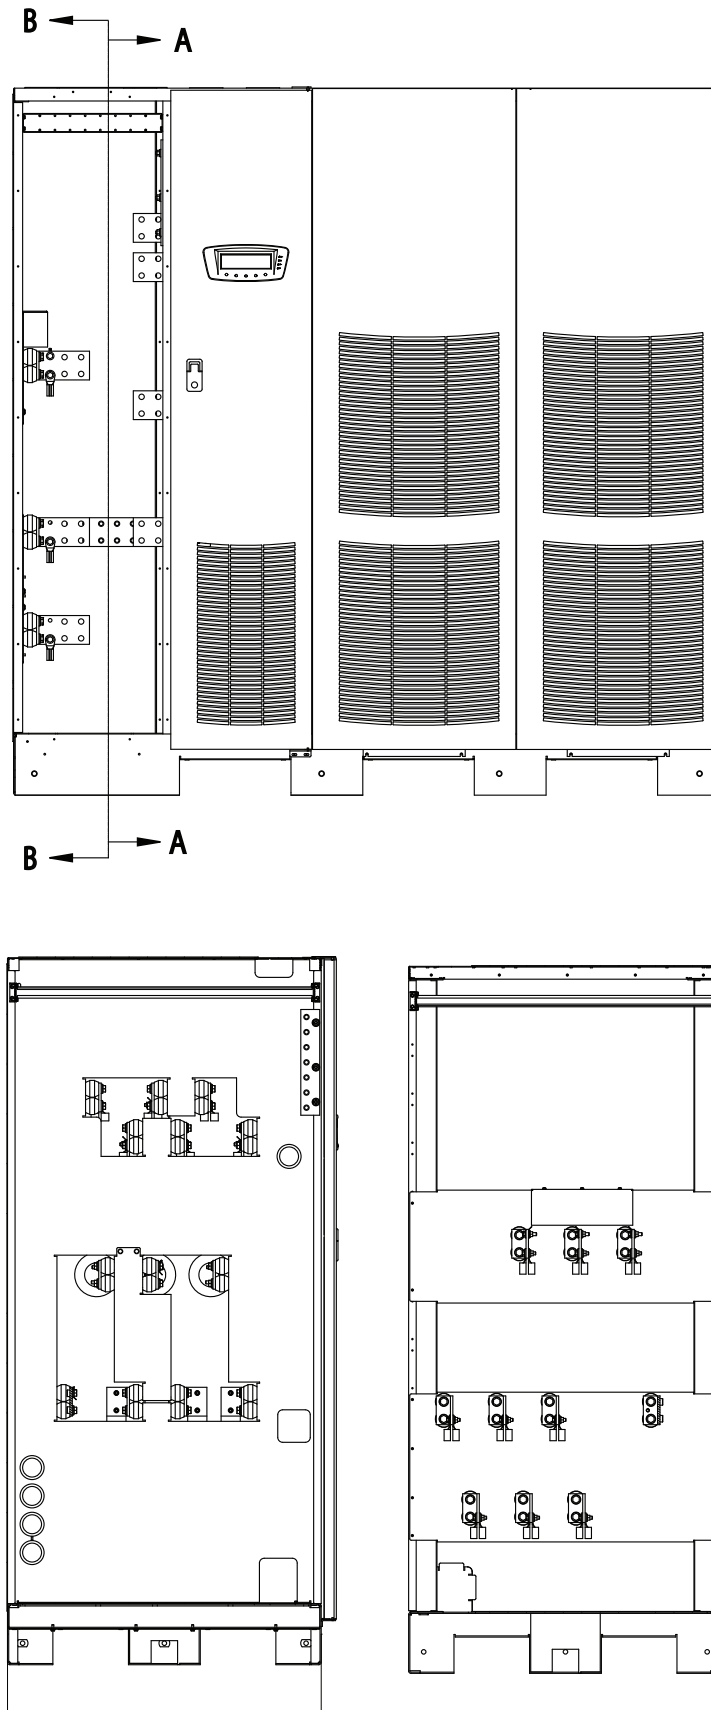
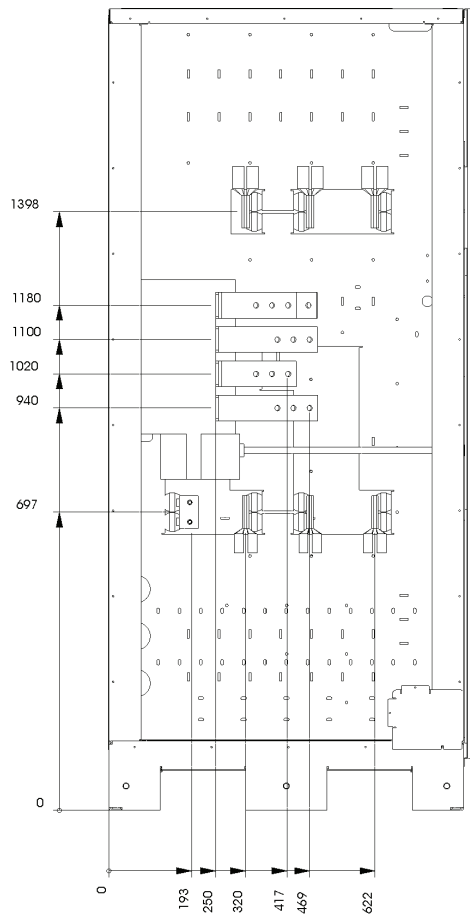

Figure 4-7. UPS power terminal locations - separate rectifier feed
Figure 4-9. Side view. UPS power terminal locations MBS version
2. Route the input and output cables through either the top or bottom of the cabinet to the UPS terminals. See Figure 4-4 through Figure 4-9 for wiring access information and common rectifier feed terminal locations or Figure 4-7 for separate rectifier feed terminal locations.
2. Route and connect the battery cables between the UPS and the battery cabinets in accordance with the instructions in the Eaton 9395 Integrated Battery Cabinet (Model IBC-L) installation manual. See Figure 4-4 through Figure 4-9 for wiring access information and terminal locations.
5. Route and connect the battery cables between the UPS and the battery system. See Figure 4-4 through Figure 4-9 for wiring access information and terminal locations.